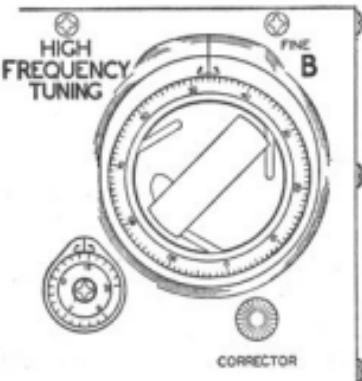

Figure 1. High Frequency Tuning Control
(1) Plug a pair of headphones into the No. 1 sidetone jack on the transmitter, or listen to sidetone through ICS. Sidetone No. 2 cannot be used unless proper external connections have been made through remote jack J106.
(2) Turn LOCAL-REMOTE switch to LOCAL.
(3) Find desired frequency in calibration table, pages 1-16 thru 1-66.
(4) The main frequency controls ("B" for the high frequency range and "G" for the low frequency range) each rotate 20 turns to cover a tuning range. The dial reading given in the table is the number of turns indicated on the small turn counter followed by the dial setting of the large knob. Thus, the dial reading shown in Figure 1 is 1447.